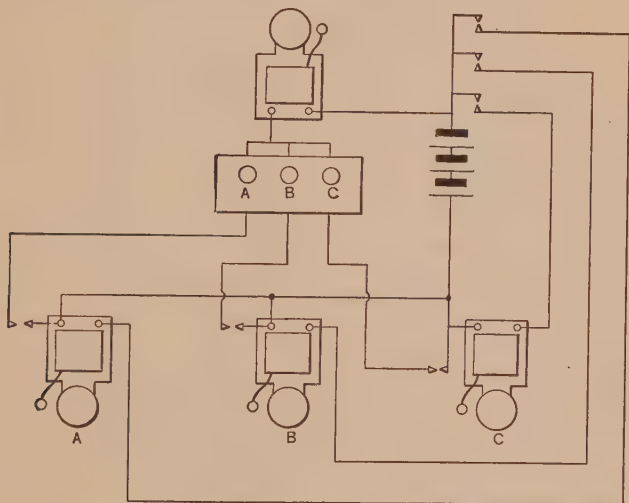

FIG. 194. A return-call annunciator system. The bell at the top can be rung from any of the three stations below at A, B and C.
In Fig. 194 is shown a return call annunciator system used in many hotels, where it is necessary for the guest to be able to ring up the desk, and for the desk to ring up the guest.
**Prob. 12.** Several patented systems are on the market which form very compact devices for accomplishing the results obtained by Fig. 194. They usually make use of 3-way push buttons in place of the simple 2-way button of the illustrations. Draw a diagram showing typical wiring of one of these systems, using a 3-way push button or strap key, as shown in Fig. 195.